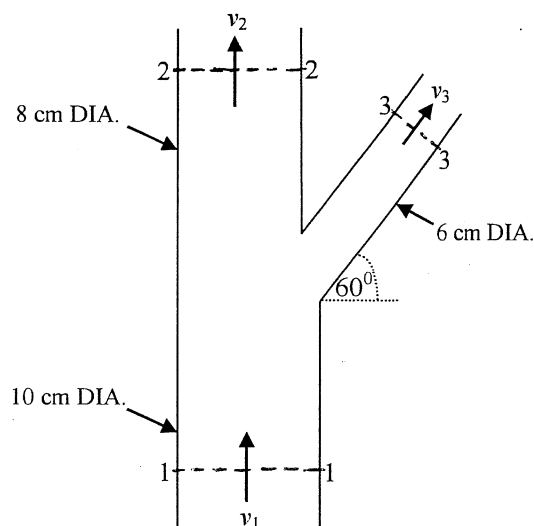

Figure 2
4. Water flows through a pipe junction where pipes of different diameters are connected as shown in Figure 2. Fluid pressure at section 1 is 25 kPa. Flow rate at section 1 is 12 liters per second (12 l/s) while flow rate at section 3 is 4 liters per second (4 l/s). Flow directions and pipe diameters are shown in the figure.